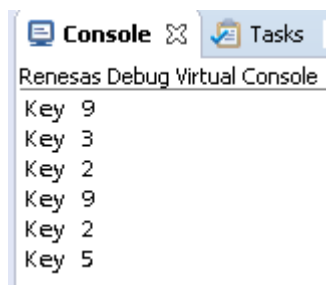

Figure 6. Example Output from Key Matrix HAL Module Application Project
9. If semi hosting is enabled, the output can be viewed on Renesas Debug Virtual Console as shown in Figure 6